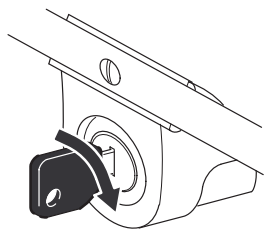

Figure 13
- A. Insert the key into the switch (Fig. 13).